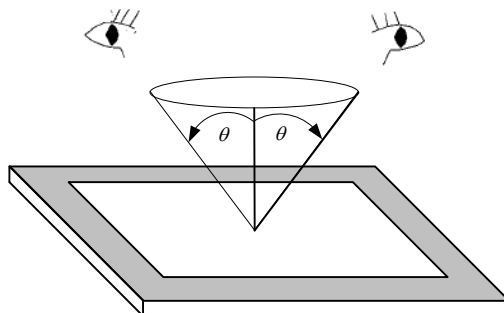

Fig. 12.1
- The viewing zone is defined with angle θ shown in Fig.12.1 The inspection should be performed within 45° when display is shut down. The inspection should be performed within 5° when display is power on.